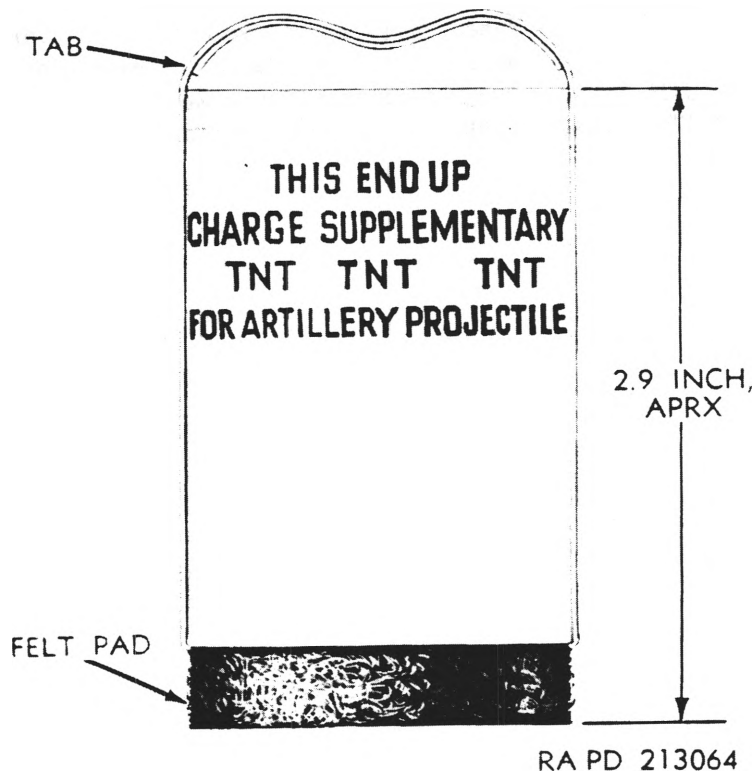

Figure 53. Supplementary charge.
a. This charge (fig. 53), assembled in